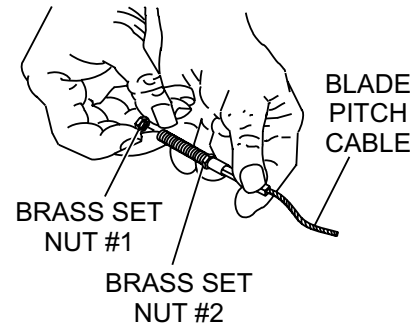

Figure 12. Blade Pitch Cable
2. Remove brass set nuts #1 and #2 from the blade pitch cable end as shown in (Figure 12).